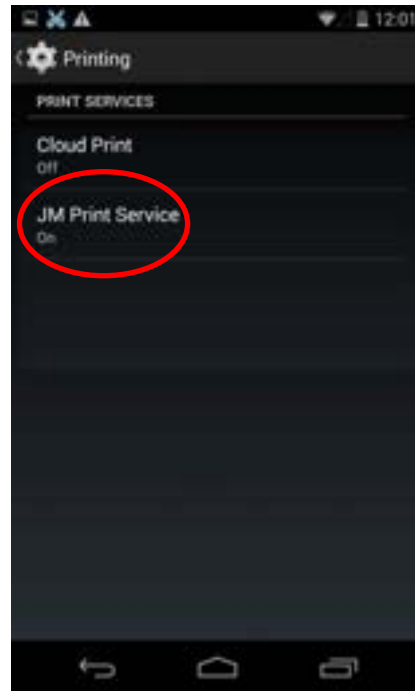

Figure 22
3.3 Find out “JM Print Service” in “Printing” interface and enter into, as shown in Figure 22;